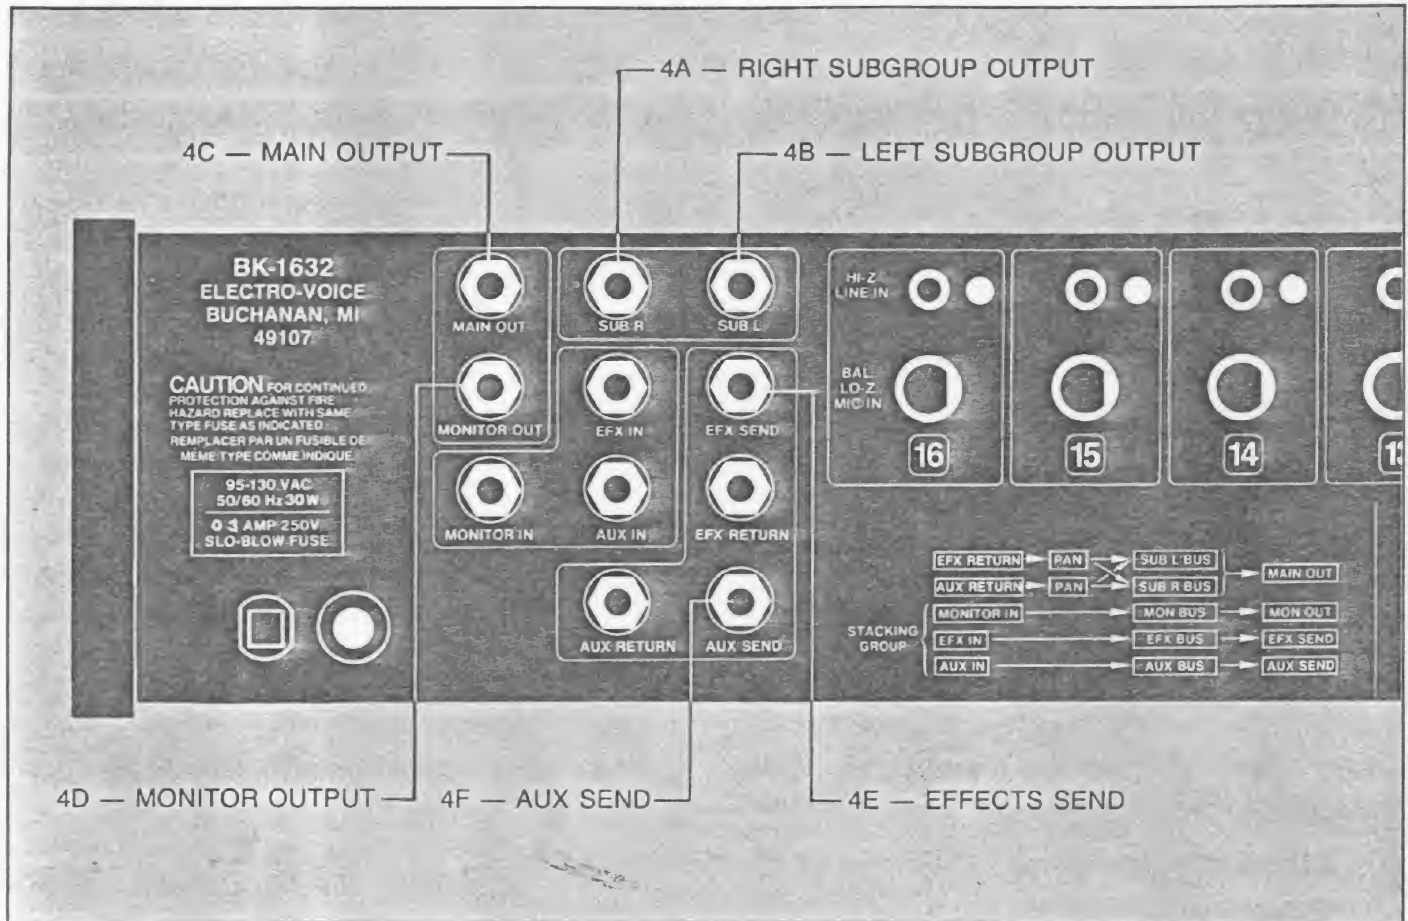

FIGURE 4 — Output Jacks
4.0 REAR PANEL OUTPUT CONNECTORS (Figure 4)